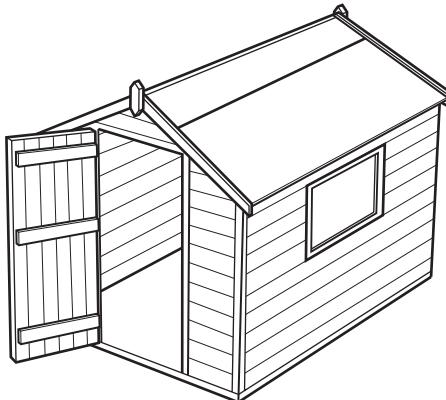

Fig. 1a
- 1** Fig. 1a shows a garden shed. The door has structural weakness and needs to be modified to overcome this weakness.